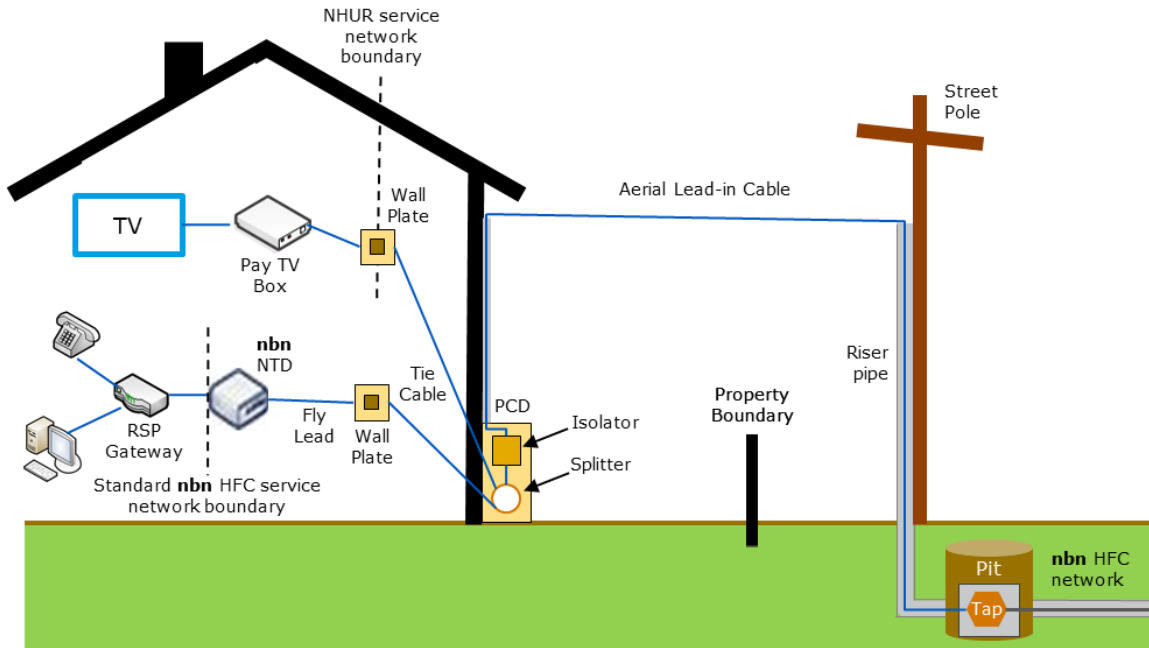

Figure 3 SDU nbn HFC installation – underground TAP with aerial lead-in cable
- Aerial lead-in via a street pole infrastructure as shown in Figure 3
Figure 3 displays the aerial lead-in cable connected to the TAP within the pit via link pipe and riser pipe.